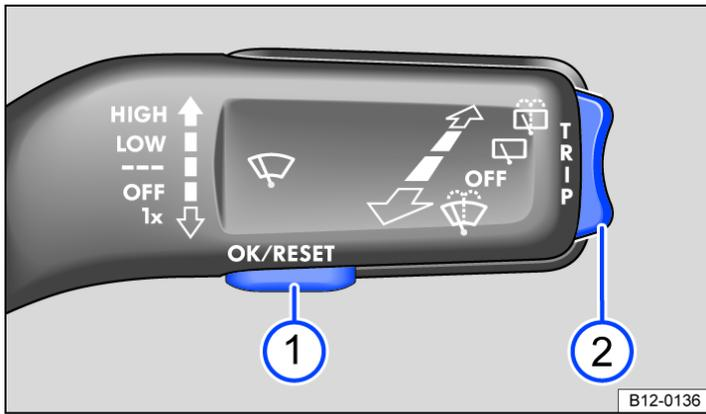

Fig. 1 The windscreen wiper lever: button ① to confirm and rocker switch ② to change the display.
- If a message or the vehicle pictogram is displayed, press the **OK/RESET** button → Fig. 1 ①.
- To list the main menu, press and hold rocker switch → Fig. 1 ②.
- Press the rocker switch **TRIP** → Fig. 1 ② on the wiper lever at the top or bottom until the required submenu option is marked.
- To open the submenu option, press the → Fig. 1 ① button on the wiper lever.